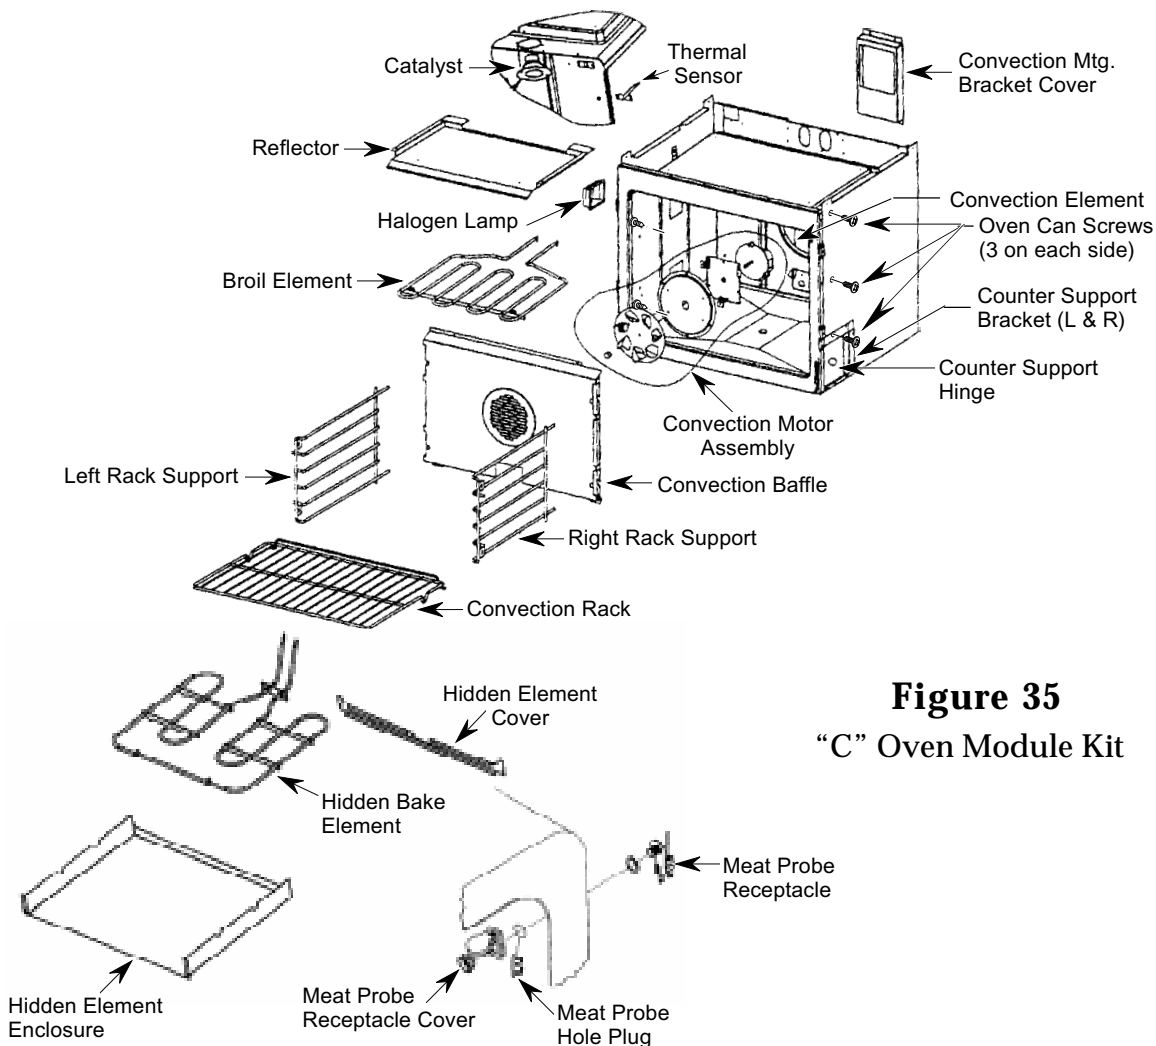

Figure 35
4. Remove the components from the oven, shown in Figure 35. Refer to the sections in this manual for the procedures on removing the components.